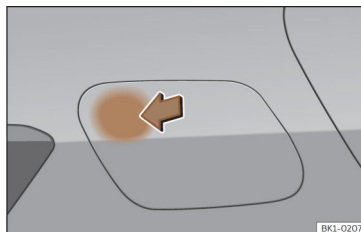

Fig. 55 Opening the charging socket cover.
- If the vehicle is unlocked, the battery charging cover opens when the indicated zone is pressed >>> Fig. 55.